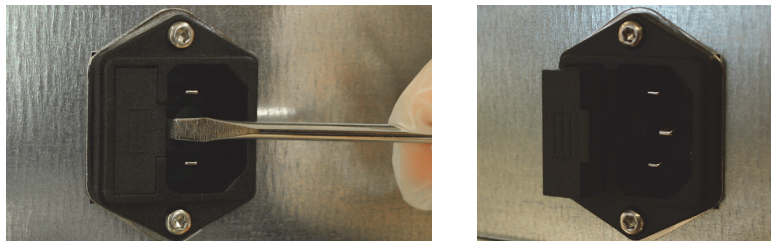

Figure 5-9. Loosen the Fuse Holder
4. Loosen the fuse holder by carefully prying under the notch on the left side of the holder with a small standard (flat blade) screwdriver; see Figure 5-9.